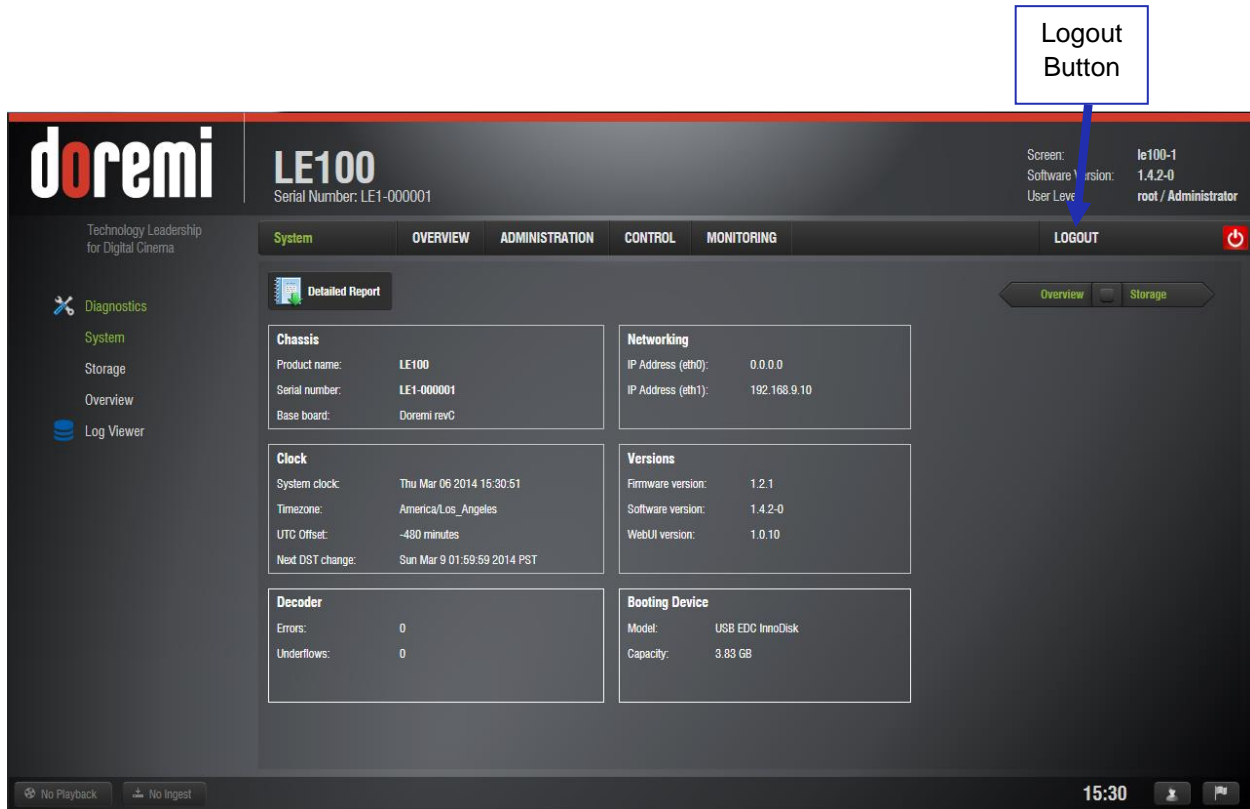

Figure 28: Log Out
- Click on the Log Out button (see Figure 28).